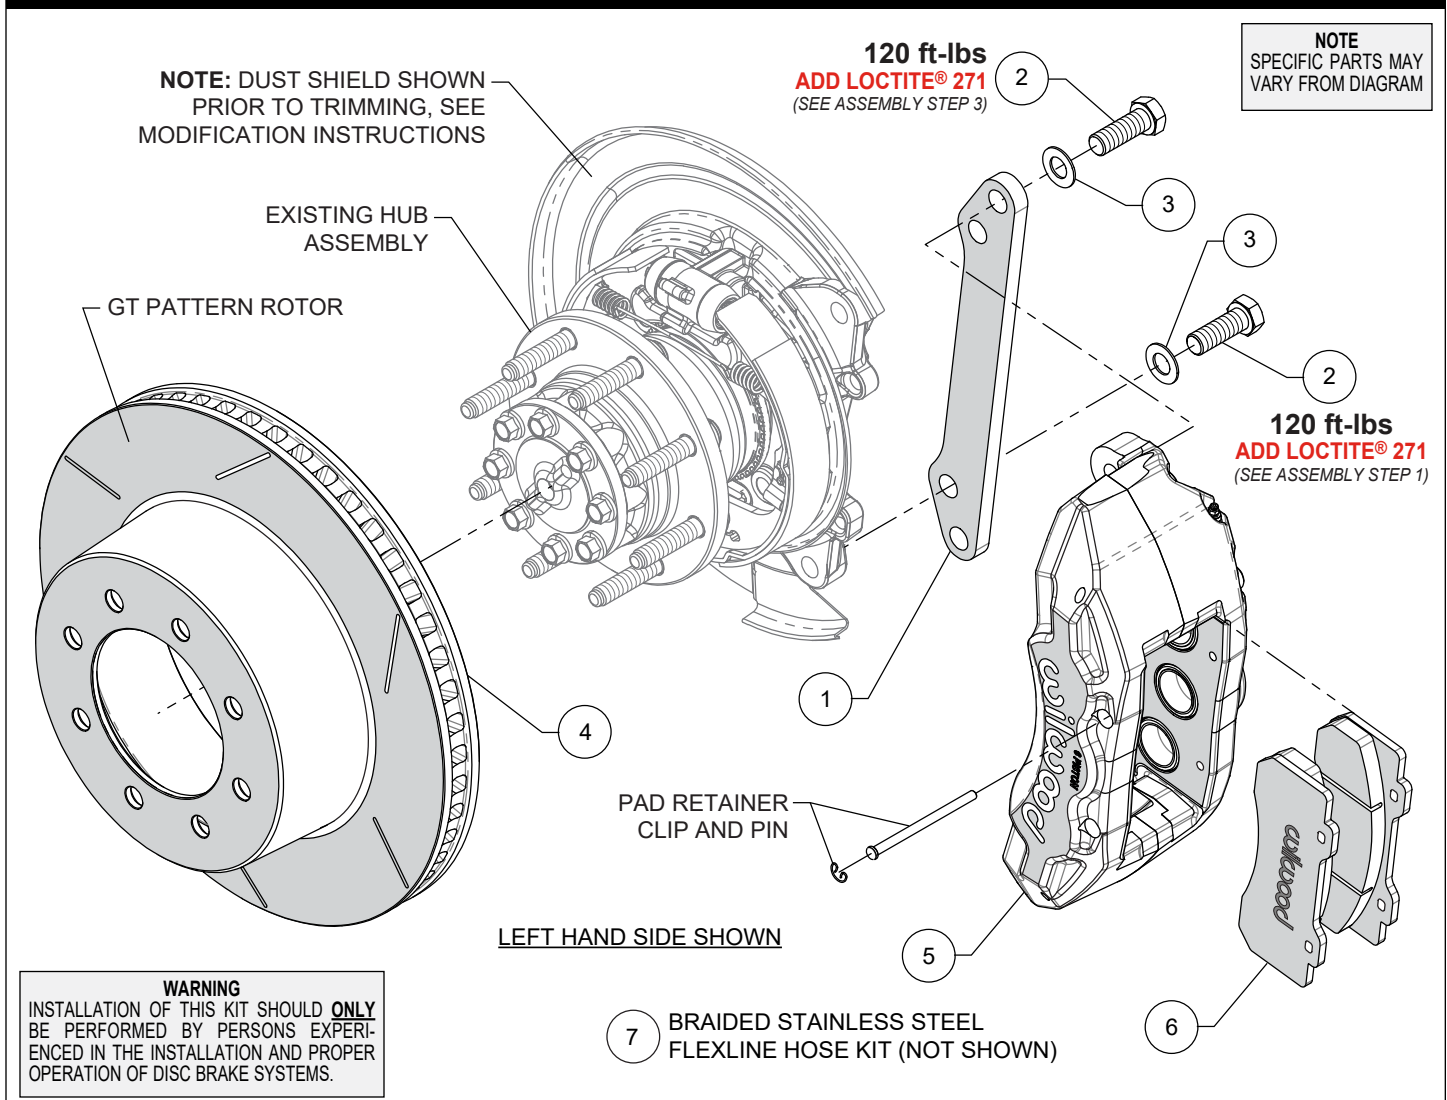

Figure 1. Typical Installation Configuration
Numbers in parenthesis refer to the parts list and Figure 1 on the preceding pages.
STEP 1 The caliper mount bracket (1) should initially be installed with clean, dry threads on the mounting bolts. Orient the bracket as shown in Figure 1 and Photo 1, and install using bolts (2) and washers (3). Temporarily tighten the mounting bolts. **NOTE:** The bracket must fit squarely against the mount bosses on the upright. Inspect for interference from casting irregularities, machining ridges, burrs, etc. Remove bolts (2) one at a time, apply red *Loctite*® 271 to bolt threads, and torque to value shown in Figure 1.
STEP 2 Slide the rotor (4) onto the axle hub. **NOTE:** The rotor must fit flush against the hub flange or excessive rotor run out may result. Install three lug nuts to keep the rotor in place while continuing with the installation, Figure 1 and Photo 2.
STEP 3 Mount the caliper (5) onto the caliper mount bracket (1) using bolts (2) and washers (3), as shown in Figure 1 and Photo 3. Apply red *Loctite*® 271 to bolt threads, and torque to value shown in Figure 1.
STEP 4 Remove the two pad retaining pins from the caliper by carefully popping out the pin retaining clips and sliding out the pins. Insert the brake pads (6) into the caliper, with the friction material facing the rotor, as shown in Photo 4 and secure the brake pads in place with the pad retaining pins and clips, Photo 5.